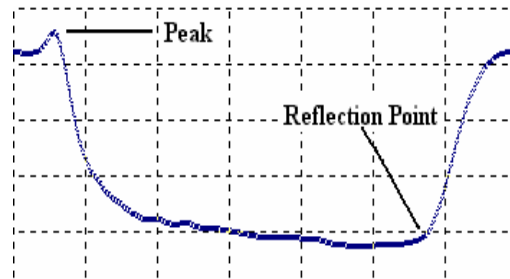

Figure 9. A sample trace with a higher Dist/Div setting.
3. Modify the Probe settings in order to get a graph that looks similar to Figure 9. Make sure you can see a “Peak” and “Reflection Point”.